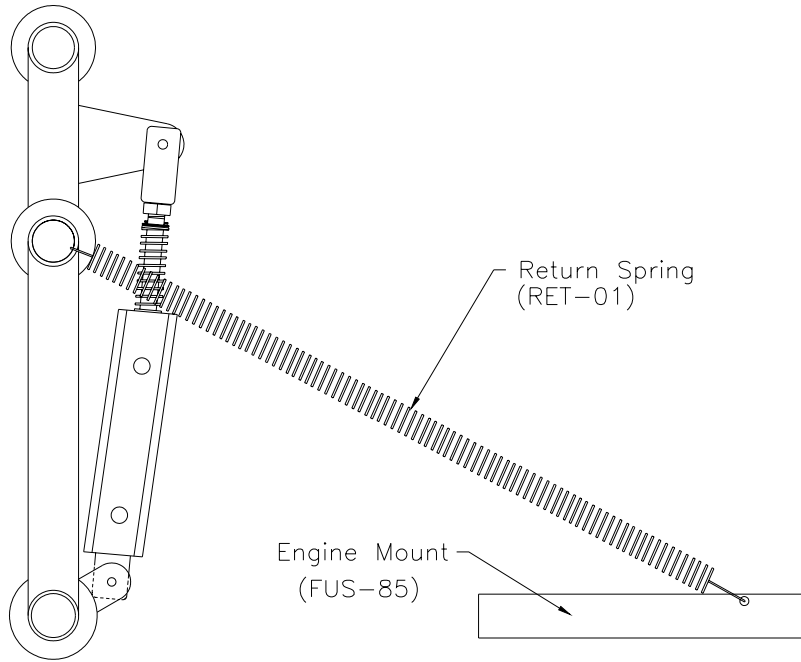

Figure 20.2.5
13) Drill a #40 hole part way through each outside tube of the rudder pedals. Drill a #40 hole into the side of the Bottom Engine Mount Bracket (FUS-85-1). Attach Rudder Pedal Return Springs (311-606). Figure 20.2.5.